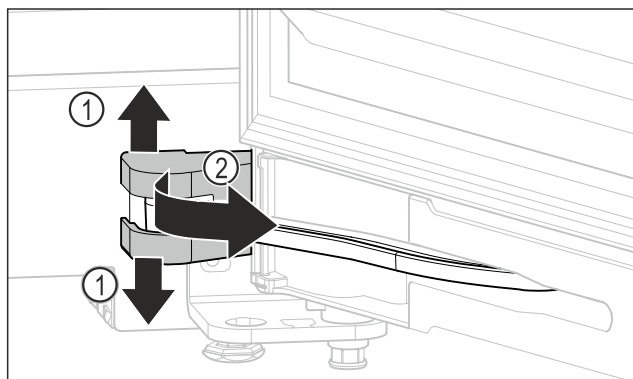

Fig. 26 *
- ▶ Pull off the swap bearing block cover as shown in the illustration Fig. 26 (1).*
- ▶ Turn the swap bearing block cover to the side Fig. 26 (2).*